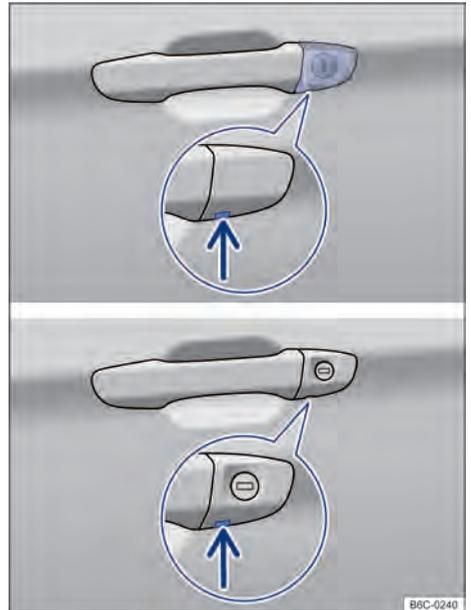

Fig. 52 Driver's door handle: lock cylinder.
- Insert the key blade from underneath into the cover opening → Fig. 52 (arrow).